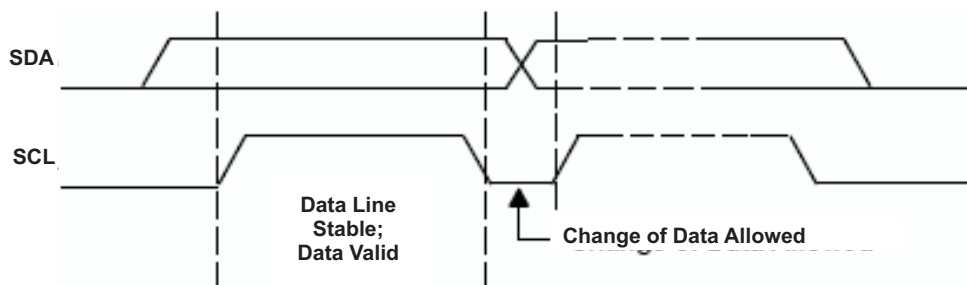
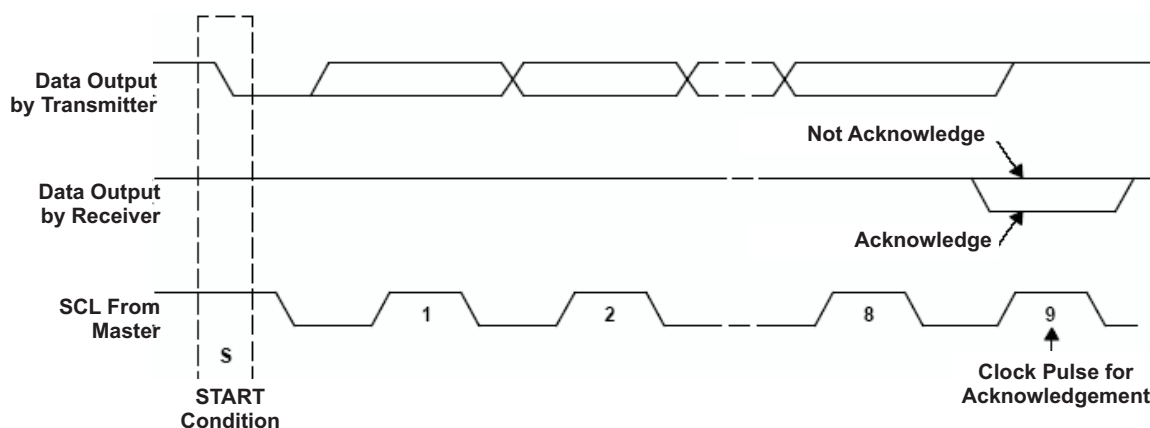

Figure 32. I²C Bit Transfer
Figure 33. I²C Acknowledge
- The master then generates the SCL pulses and transmits the 7-bit address and the *read/write direction bit* R/W on the SDA line. During all transmissions, the master ensures that data is *valid*. A *valid data* condition requires the SDA line to be stable during the entire high period of the clock pulse (see Figure 32). All devices recognize the address sent by the master and compare it to their internal fixed addresses. Only the slave device with a matching address generates an *acknowledge* (see Figure 33) by pulling the SDA line low during the entire high period of the ninth SCL cycle. On detecting this acknowledge, the master knows that a